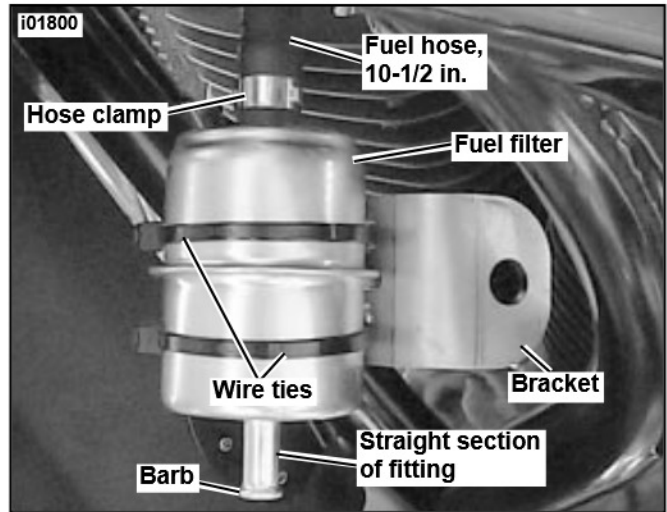

Figure 3. Filter Mounted to Bracket
- See Figure 3. Using the wire ties, attach the fuel filter to the bracket with the filter's ridge on the middle slot of the bracket. Verify that the flow arrow on the filter is pointing towards front of vehicle.
11. See Figure 3. Using the wire ties, attach the fuel filter to the bracket with the filter's ridge on the middle slot of the bracket. Verify that the flow arrow on the filter is pointing towards front of vehicle.